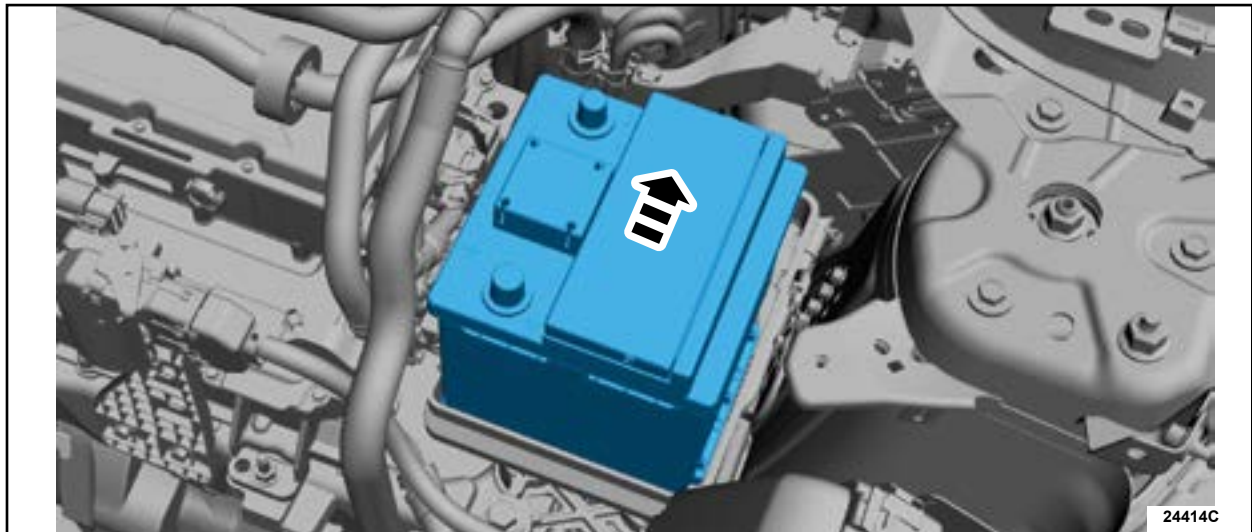

FIGURE 3
5. Position the 12V battery rearward. See Figure 3.